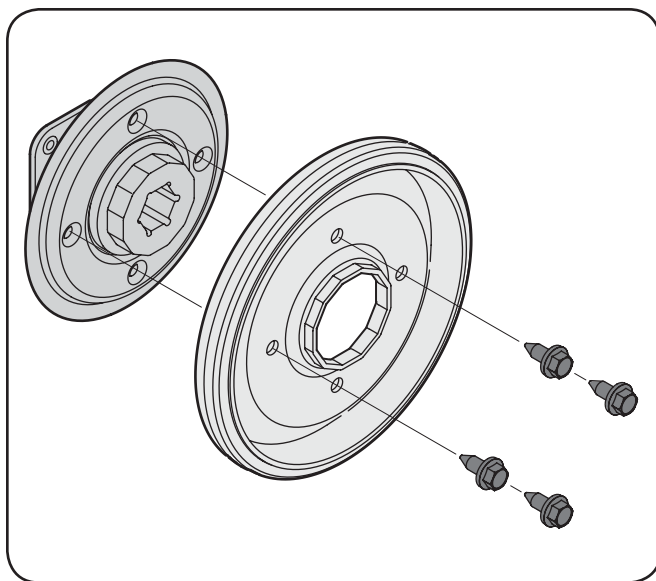

Figure 7-12
- Remove four screws securing the friction wheel to the hub assembly. See Figure 7-12. Discard old friction wheel.